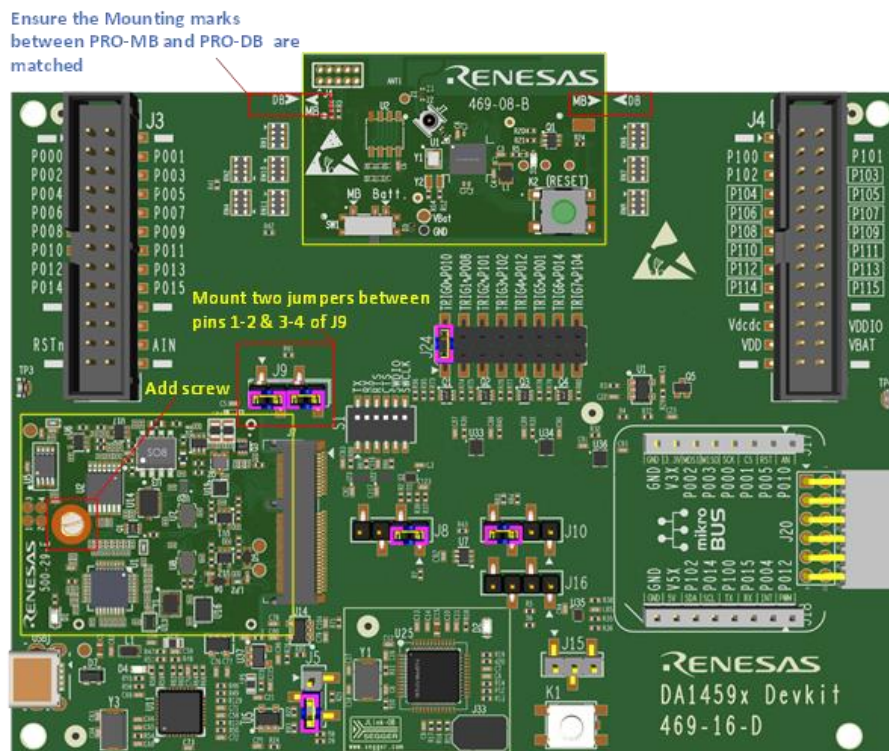

Figure 4. Default hardware setup of DA1459x Pro DevKit with PMM2
2. Mount PMM2 as shown in Figure 4. The mounting screw (M2x4, D5x0.5 or similar) must be also applied.